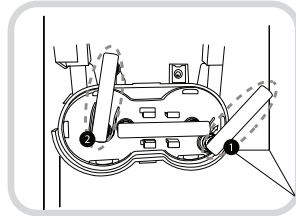

Fig. 7
6. Disassemble the Connector (1) by lifting it upward by hand and disassemble the Connector (2) by lifting it upward also by hand (fig. 7). Do not use tools to pull out the Filters.